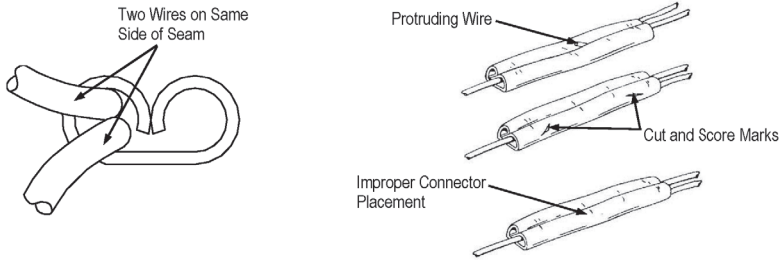

Figure 7
8.2. Visual Inspection (See Figure 7)